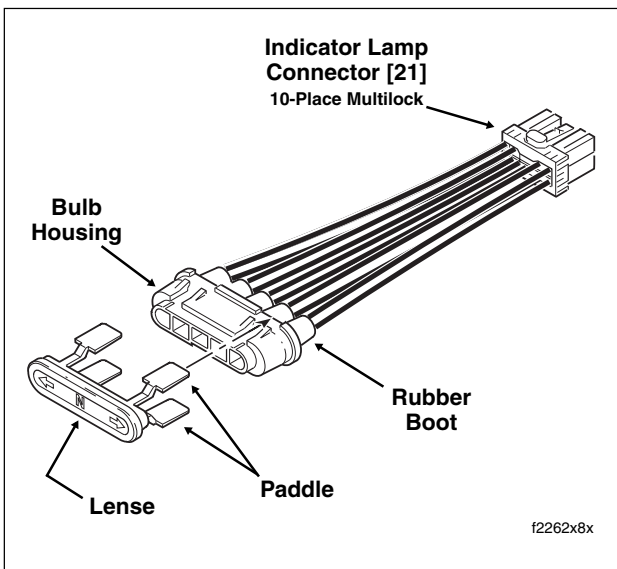

Figure 2-156. Indicator Lamp Assembly
22. Separate pin and socket halves of indicator lamps connector (10-place Multilock). See Figure 2-154. Release four paddles to free indicator bulb housing from lense assembly. See Figure 2-156. Remove lense assembly from inner fairing.
8. Place indicator lamp lense assembly into inner fairing. Slot at bottom of lense engages tab in inner fairing to prevent improper orientation. Engage all four paddles on lense assembly with slots on indicator bulb housing. Mate pin and socket halves of indicator lamps connector (10-place Multilock). See Figure 2-156.